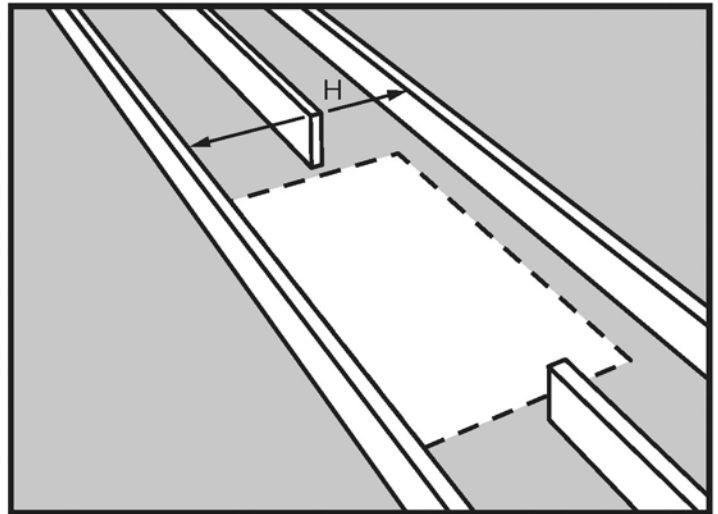

Figure 14
- STEP 1. Measure the header length "H" between the uncut joists (See Figure 14).